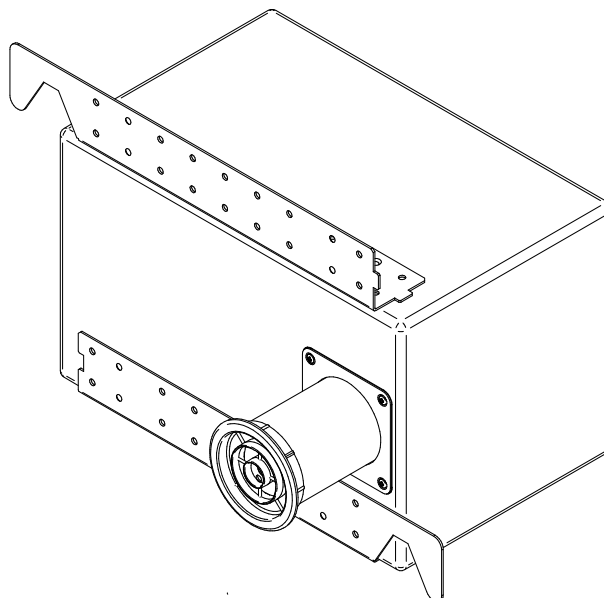

Figure 3: Diagram of installation in a partition wall
3. Screw the lower metal fitting to the wall at the required height. Remember that the lower part of the TRAILS6T will rest on this angle and that the coupling pipe has to pass through the hole. See Figure 3.
5. Screw the upper support to the TRAILS6T with the supplied screws (Figure 3) and then screw it to the wall, leaving the loudspeaker resting on the lower support.